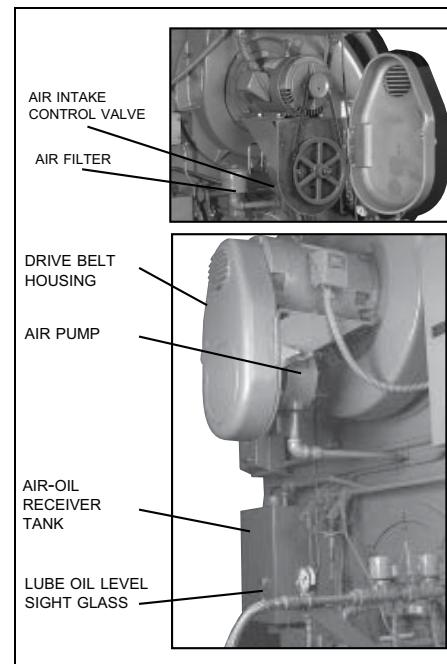

Figure 2-13 Belt Driven Air Pump (Model CB-OS)
12. Air Pump Module Assembly (Figure 2-13, 2-14): Provides the compressed air required to atomize the fuel oil for proper combustion. The CB-LE air pump module is started automatically by the programmer's sequence. It includes components described A-H.